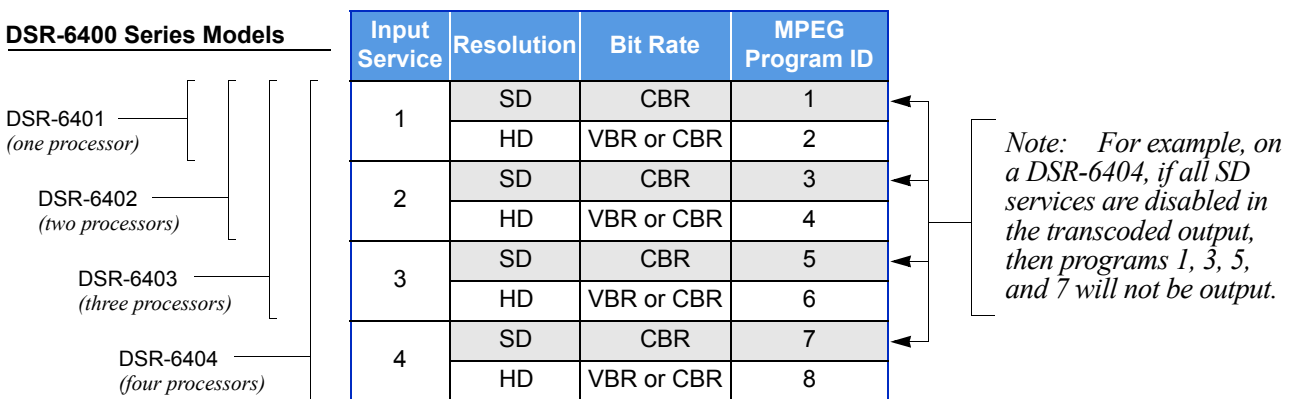

Figure 1-1: DSR-6400 Series Transcoding
- Scalable service transcoding - shown in Figure 1-1.
The DSR-6400 Series provides service transcoding that processes up to four MPEG-4 HD input services into four MPEG-2 HD/SD output service pairs (up to eight total services). Figure 1-1 shows how service capacity varies by model.